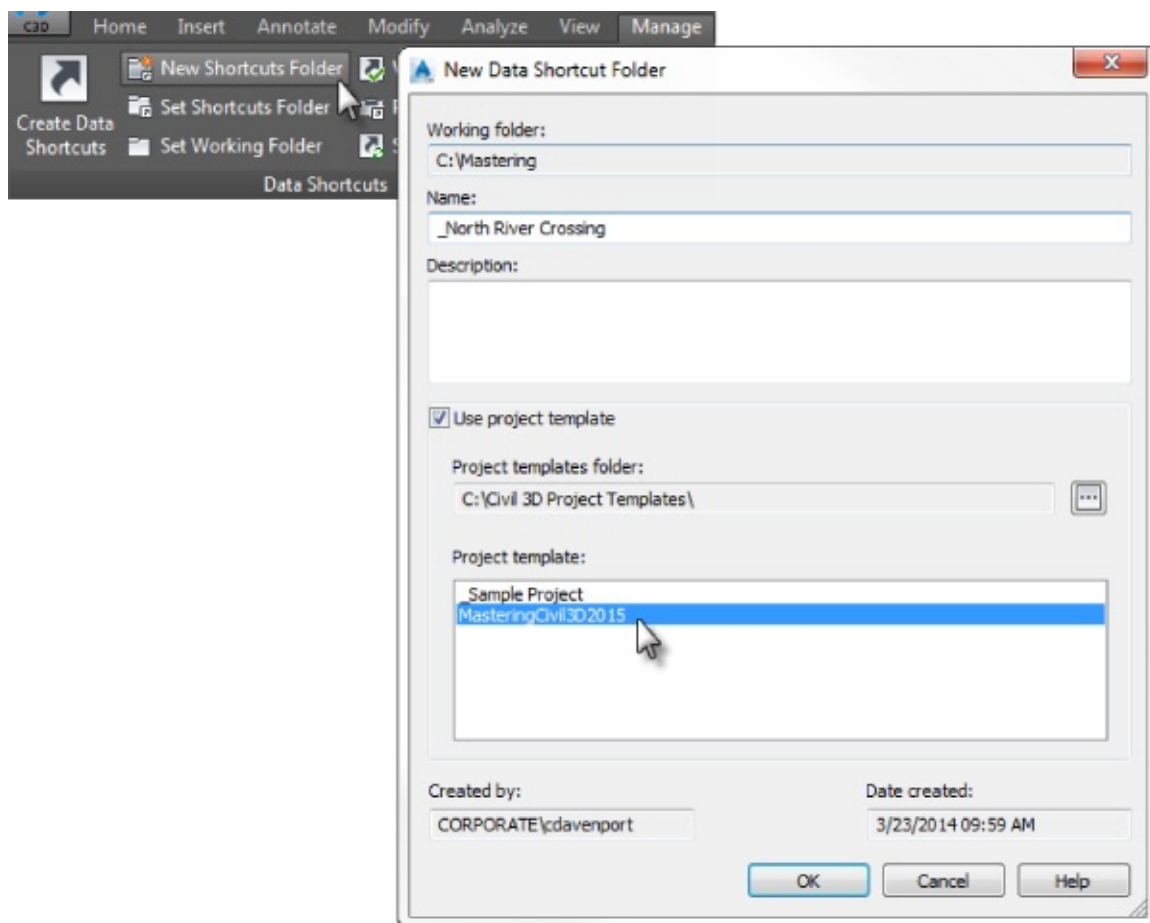

Figure 16.3 Creating a new shortcut folder
5. From the Manage tab > Data Shortcuts panel, click New Shortcuts Folder to display the New Data Shortcut Folder dialog, shown in Figure 16.3.
7. Select the **MasteringCivil3D2015** folder from the list, as shown in Figure 16.3, and click OK to dismiss the dialog.